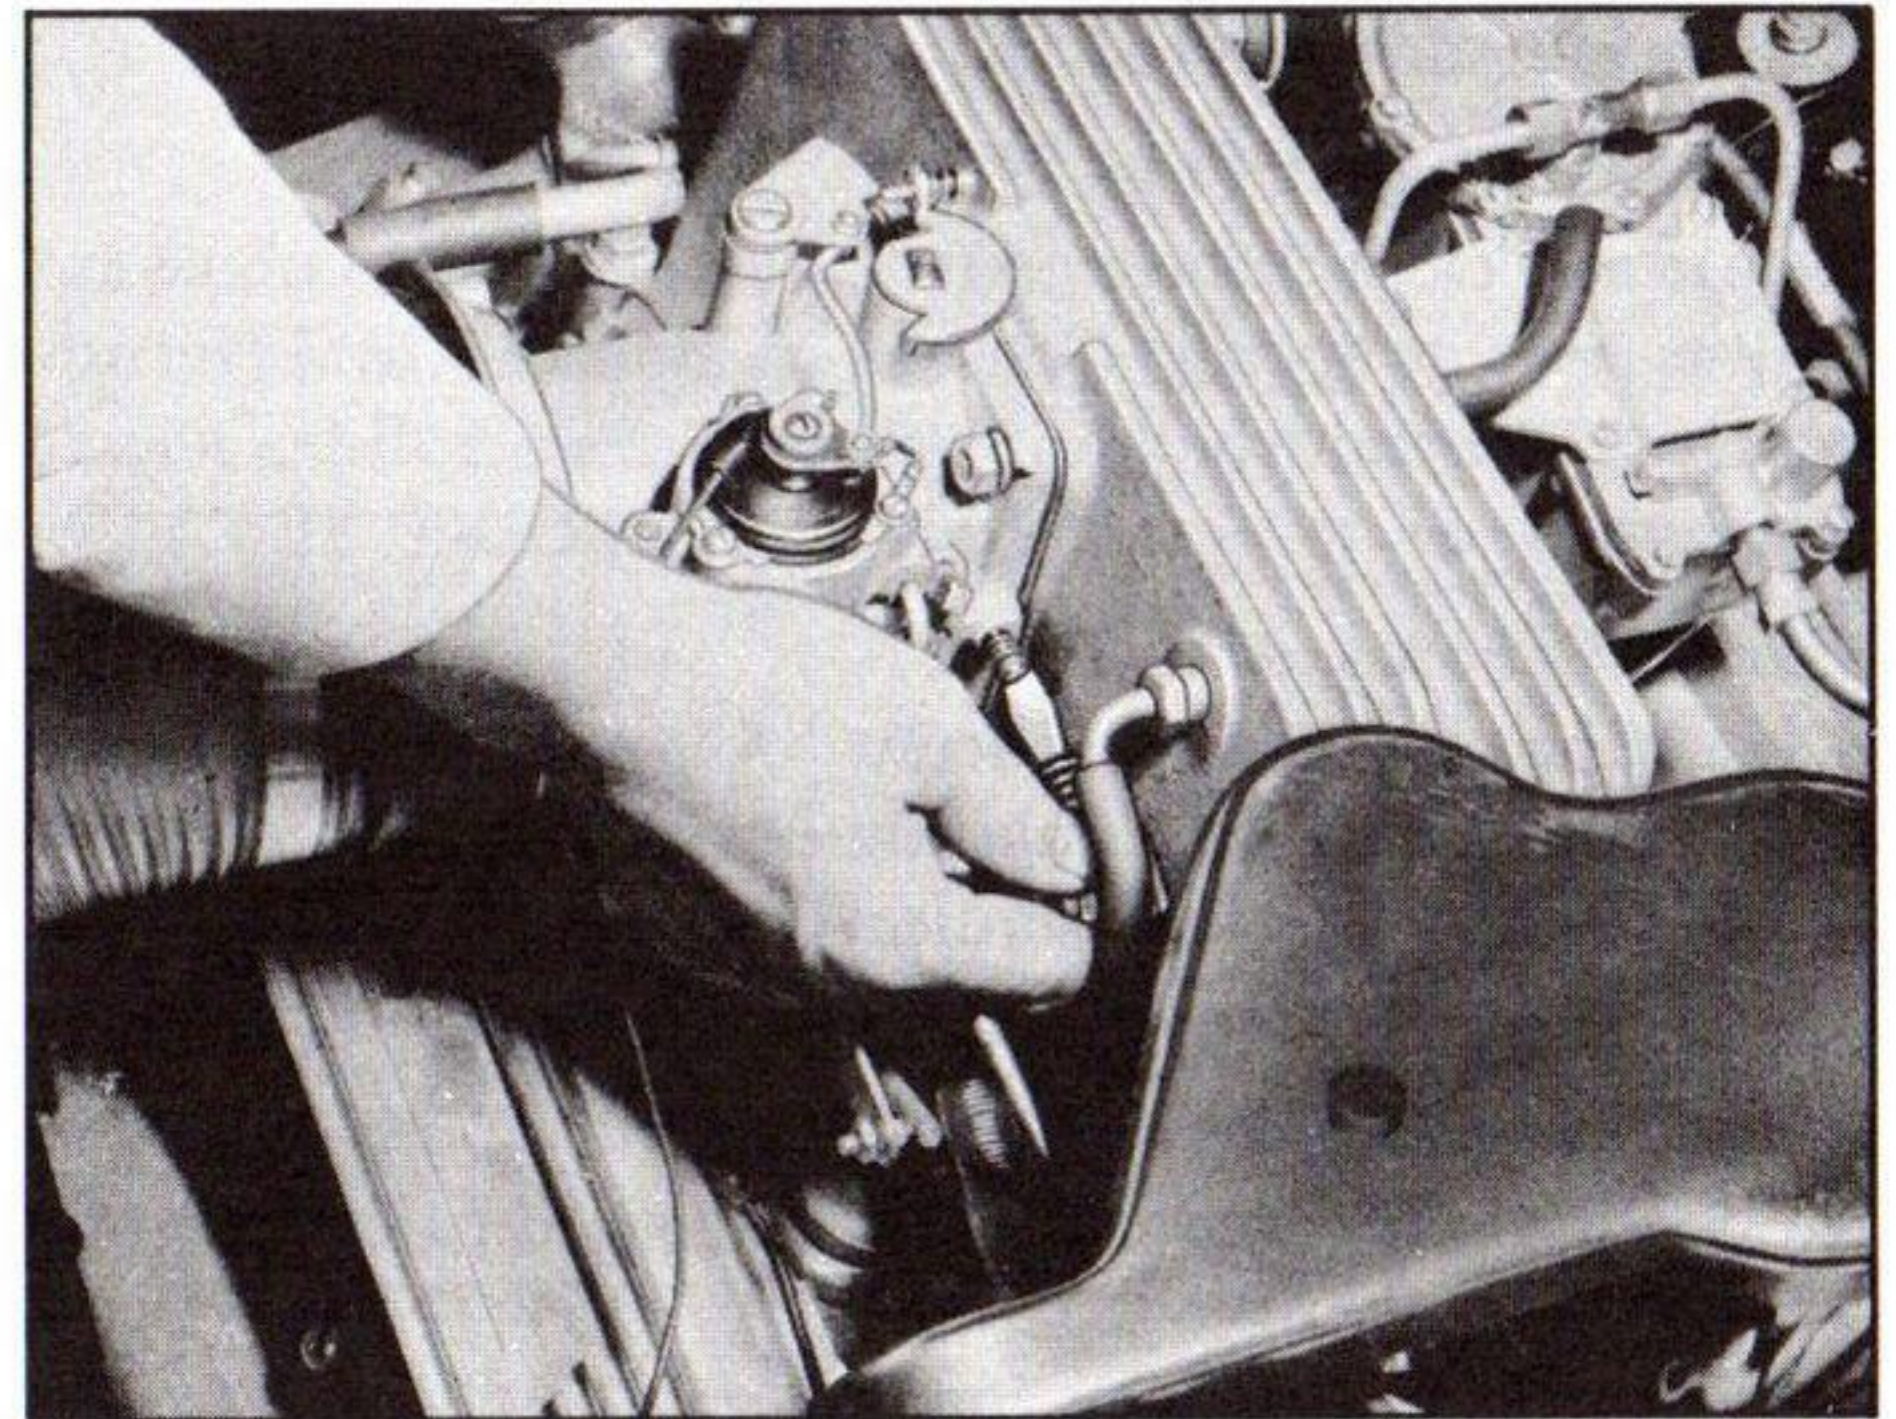

Fig. 61—Idle Fuel Adjustment
2. Adjust idle fuel adjustment screw (fig. 61) to smooth out idle speed.